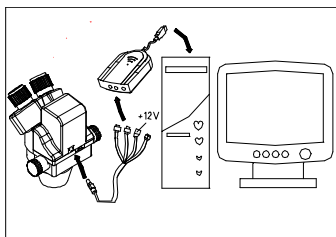

Fig.11
- 3) Plug the USB of the A/D board into the USB socket of the computer. (Fig.11)